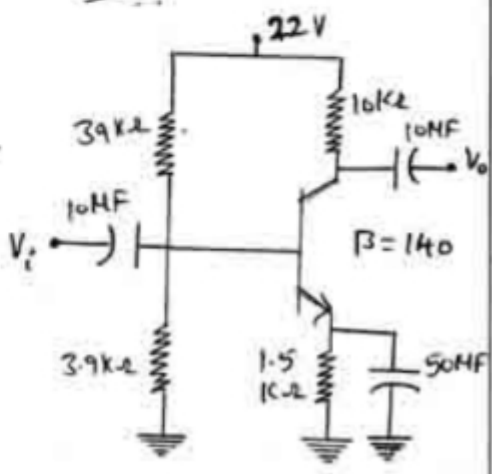

Fig 17
7) a) Determine the dc bias voltage V_{CE} & the current I_C for the voltage divider circuit of fig 17